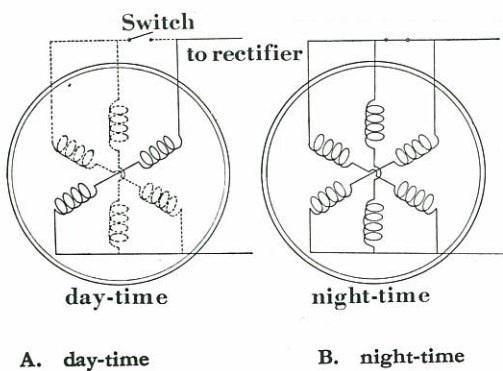

Fig. 10-1-2 A.C. generator wiring diagram
Six generating coils are incorporated into the stator in parallel, and produce electromotive force with the run of motor. When the ignition switch is placed on the daytime position, only two coils,  $C_1$  and  $C_2$  produce electromotive force as shown in the Fig. 10-1-2 (A). When it is placed on the night position, however, switch "S" is closed (Fig. 10-1-2 (B)), and all the coils,  $C_1$ - $C_6$  produce electromotive force to meet the electrical load, because the power is used for the head lamp and others.